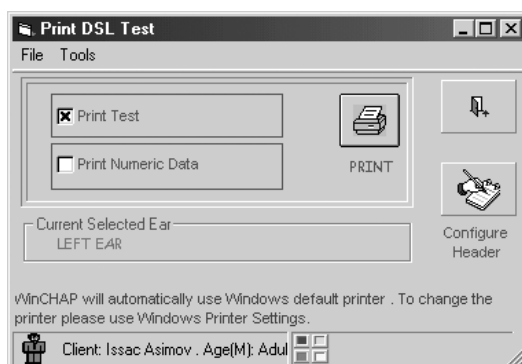

Figure 6.1.4—DSL/NAL-NL1 Print window
2. Click **Print** in the DSL/NAL-NL1 toolbar. This button is represented as a picture of a printer. The **Print** window will open. See Figure 6.1.4.